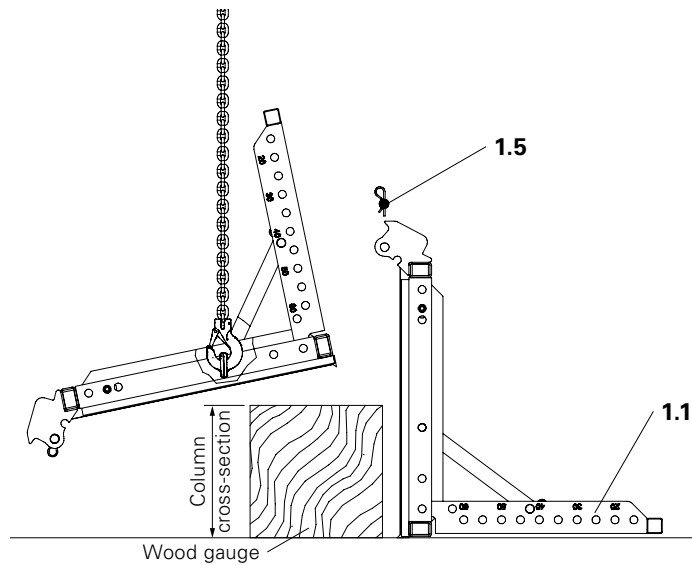

Fig. A3.04
1. Position the first QUATTRO QES Column Frame together with perforated waler (1.1) on the assembly area and remove Bolts  $\varnothing 20 \times 140$  (1.5) from the fastening straps.(Fig. A3.04)
3. Attach the 2-sling lifting gear to the offset eye bolts M20 x 110 and swivel the QUATTRO QES Column Element to the first QUATTRO QES Column Element using a crane.(Fig. A3.04)
(Fig. A3.04)